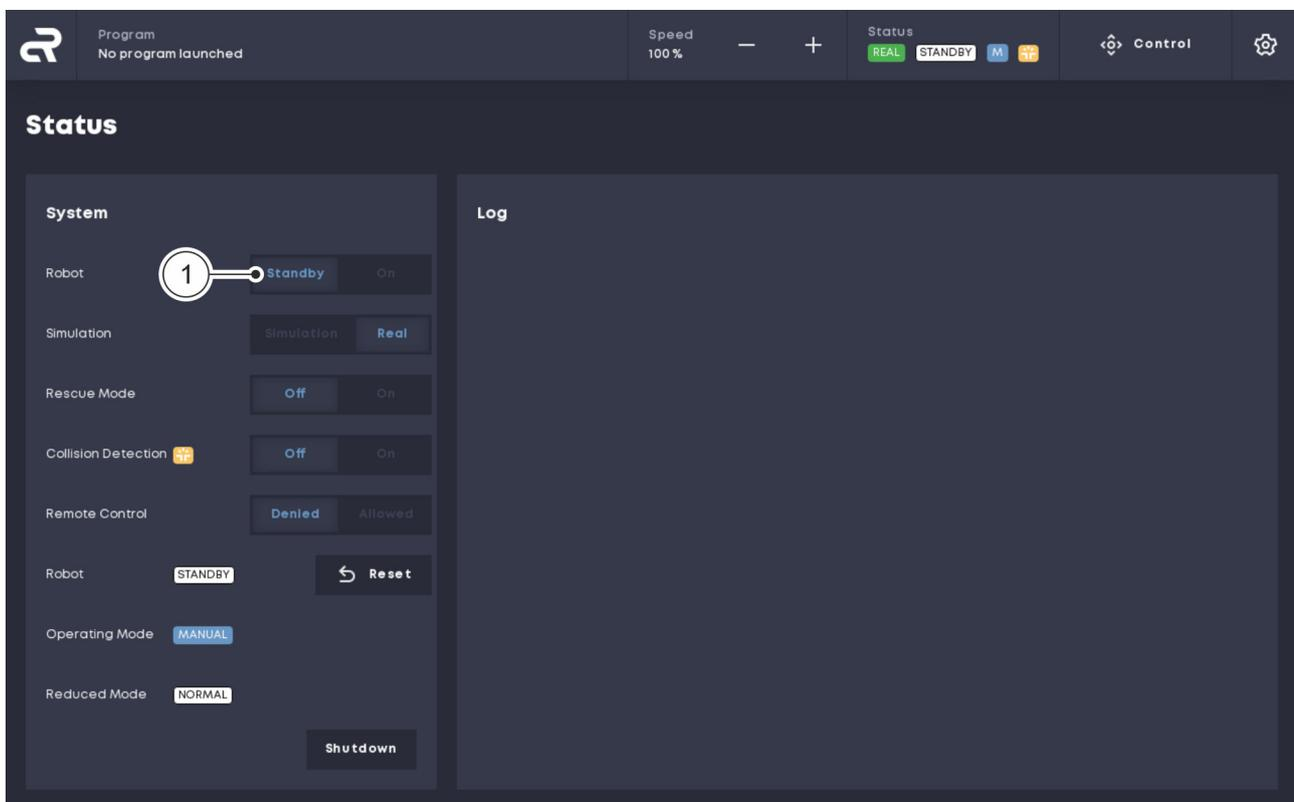

Fig. 53 Setting standby mode
01. In the 'Status' menu, click the 'Standby' button Fig. 53 / ① next to 'Robot'.